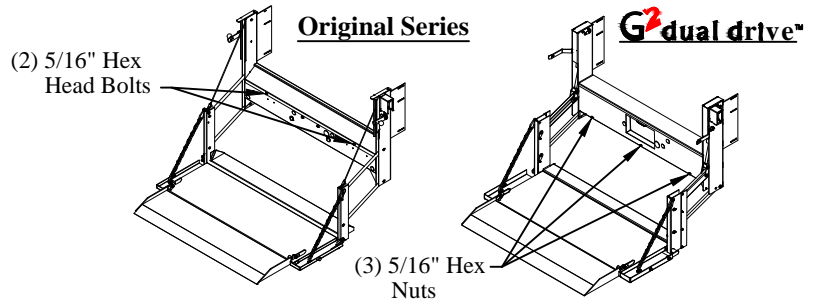

Figure 14: Box cover locations.
5. **Remove** the box cover by removing the 5/16" hex head bolts or nuts (Figure 14).